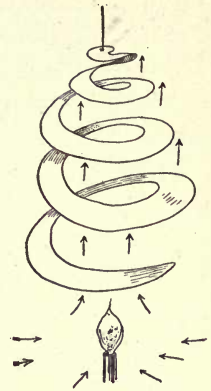

FIG. 138.
**Experiment 48.** — Cut a piece of paper in the form of a spiral (Figure 138) and hold it over a lighted Bunsen burner. The rapid upward current of the air will cause the spiral to turn, while colder air will be moving toward the flame, as shown in the diagram.